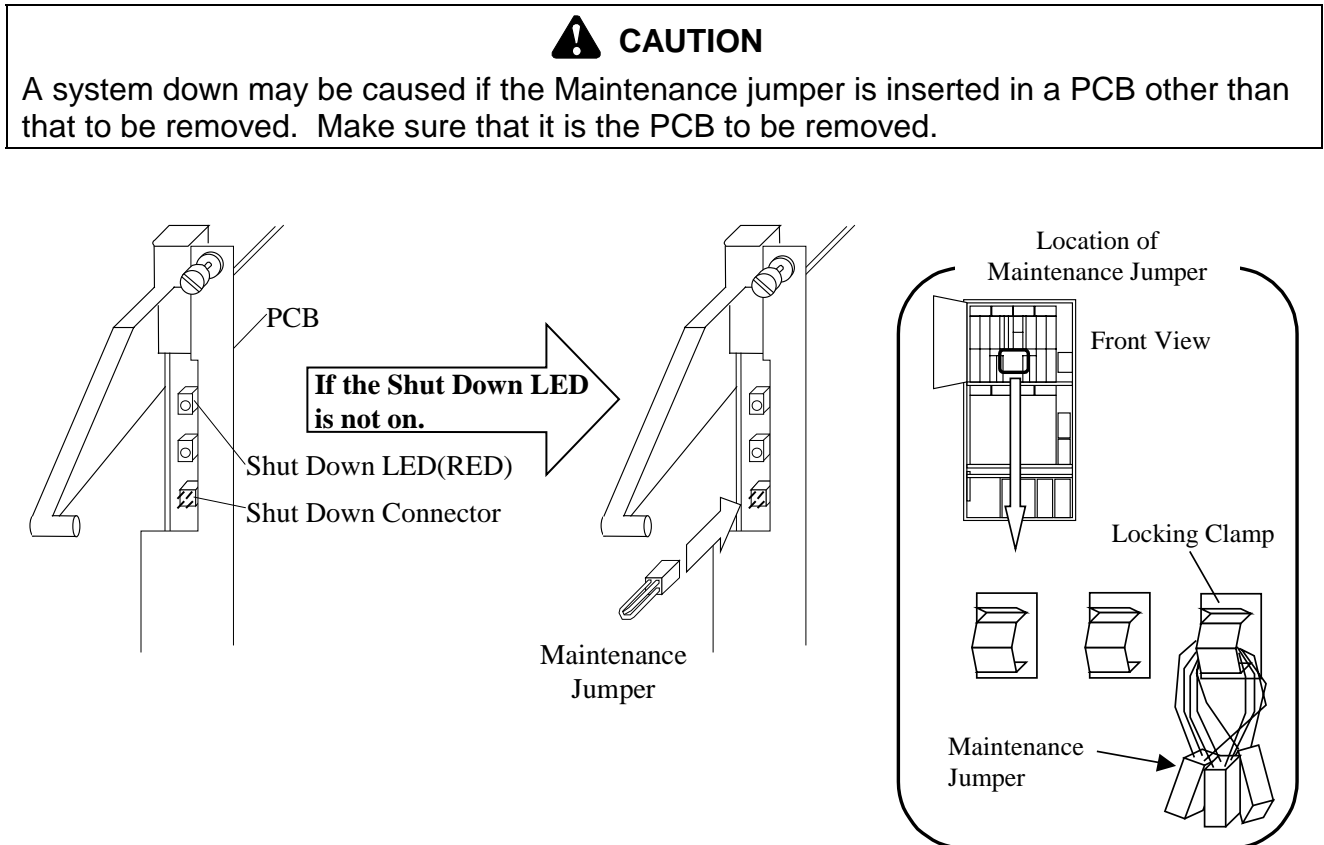

Fig. 4.3.5-1 Shut Down LED
- a. Confirm that Shut Down LED is on (Fig. 4.3.5-1). If the LED is not on, connect the Maintenance Jumper to the Shut Down Connector.
- Remove the bracket and cable clamp referring to Fig 4.3.5-2.
- Disconnect the optical fibre cables referring to Fig 4.3.5-3.